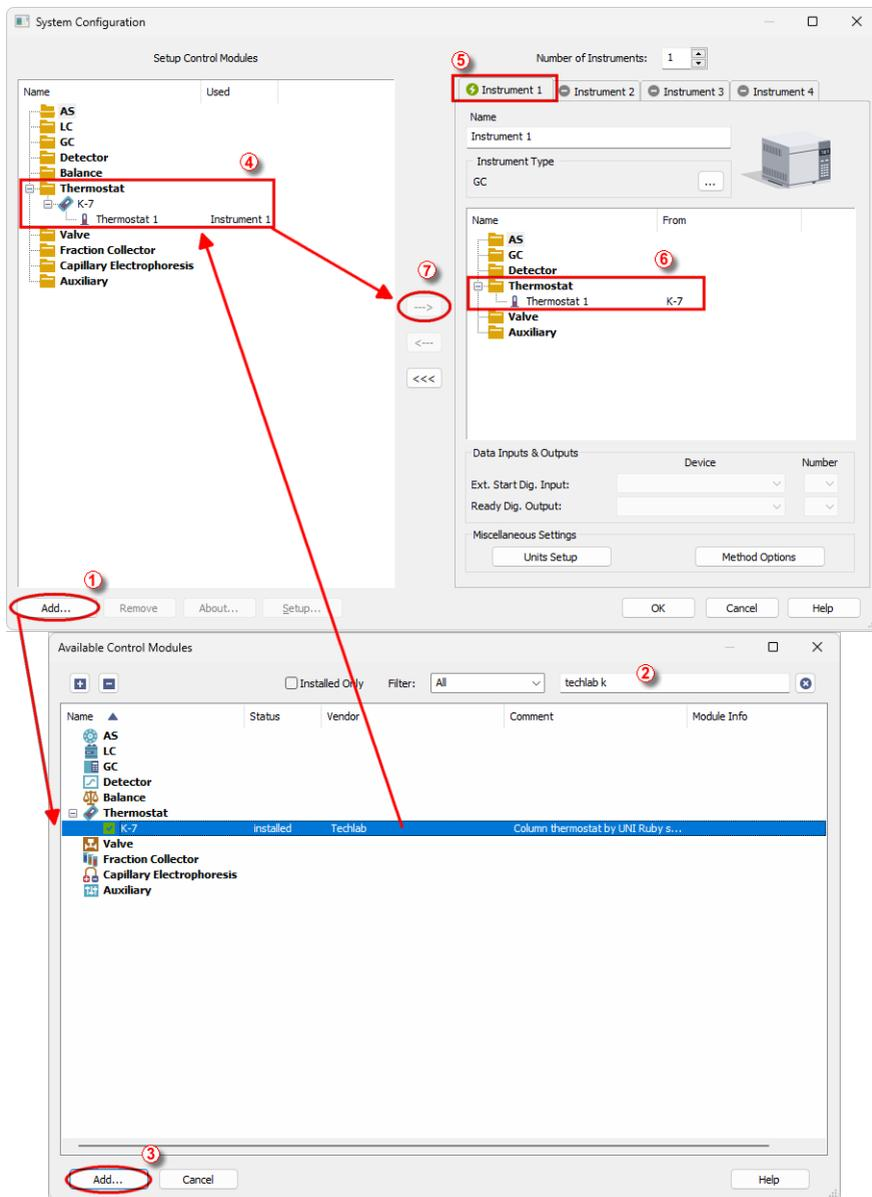

Fig. 3: How to Add Techlab K-7
- Press the **Add** button (① on **Fig. 3** on pg. 4.) to invoke the *Available Control Modules* dialog.
- You can specify the search filter (②) to simplify the finding of the driver.
- Select the correct item and press the **Add** (③ on **Fig. 3** on pg. 4.) button. Each device with already created UNI profile should have its own item named accordingly in the *Available Control Modules* dialog.